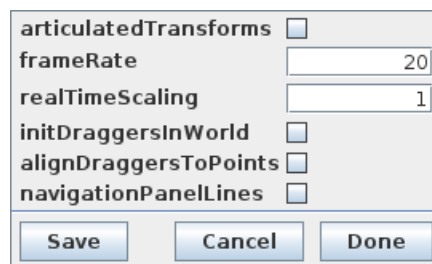

Figure 49: Interaction settings dialog.
*Interaction* settings involve attributes related to the graphical interface and model interaction. They can be adjusted by selecting “Interaction ...” from the Settings menu, which opens an *interaction settings dialog* (Figure 49). Clicking the Save button will save the current settings to the user’s preferences (Section 11.2) so that they will be set automatically when ArtiSynth is restarted. Interaction settings include: